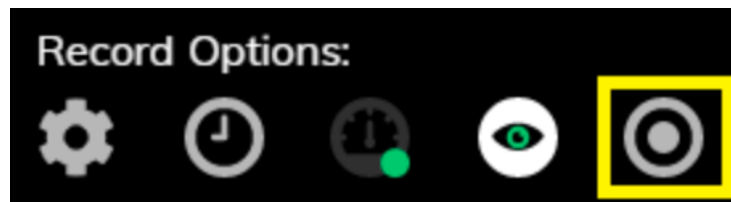

Figure 11
7. The Mantarray is now ready to record. This will be indicated by the shade of the "Record" button, shown below in the yellow box in figure 11. Click this button to begin recording. Data from all 24 wells will be recorded, regardless of which 6 wells you are currently viewing.